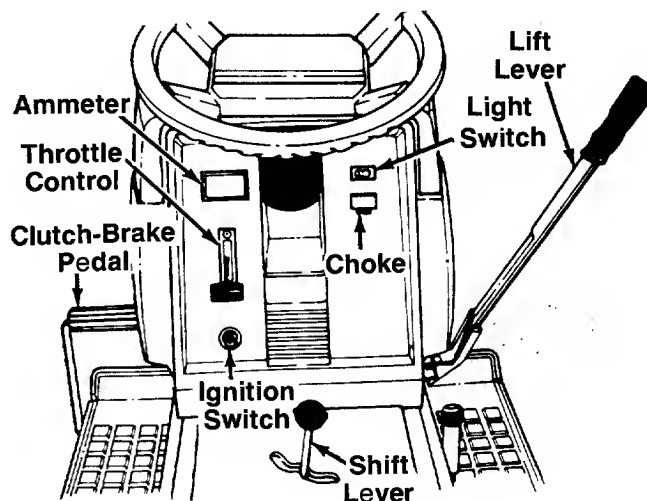

FIGURE 10.
The throttle control is used to regulate the engine speed. To get maximum efficiency from cutting, the throttle should be in the FAST position when operating the mower. See figure 10.
The choke control is located on the dashboard and is operated manually. Details for the choke operation are covered in the separate engine manual packed with your unit. See figure 10.
The shift lever is located in the center of the console and has three positions, FORWARD, NEUTRAL and REVERSE. See figure 10. The clutch-brake pedal must be depressed and the lawn tractor must not be moving when shifting gears. Do not force the shift lever. Release the clutch-brake pedal slightly to line up the shifting collar in the transmission. Then try to shift gears.
Turn the key to the START position to start the engine. When the engine is running, let the key return to the ON position. To stop the engine, turn the key to the left to the OFF position and remove it to prevent accidental starting. See figure 10.
Push the light switch to turn on the lights. The lights will only operate when the engine is running. See figure 10.
The ammeter registers the rate of battery charge or discharge. The ammeter will register on the discharging side when starting the engine. It should register on the opposite side (charging) when the engine is running in the fast position until the battery is completely charged. With a fully charged battery or with the engine idling, the ammeter will not show a charge. See figure 10.
The clutch-brake pedal is located on the left side of the lawn tractor. Depressing the clutch-brake pedal part way disengages the clutch. Pressing the pedal all the way down disengages the clutch and engages the disc brake. See figure 10.
3. Place the lift lever in the DISENGAGED position. See figure 10.
4. Set the throttle control in the FAST position. See figure 10.
6. Turn the ignition key to the START position. When the engine is running, let the key return to the ON position. See figure 10.